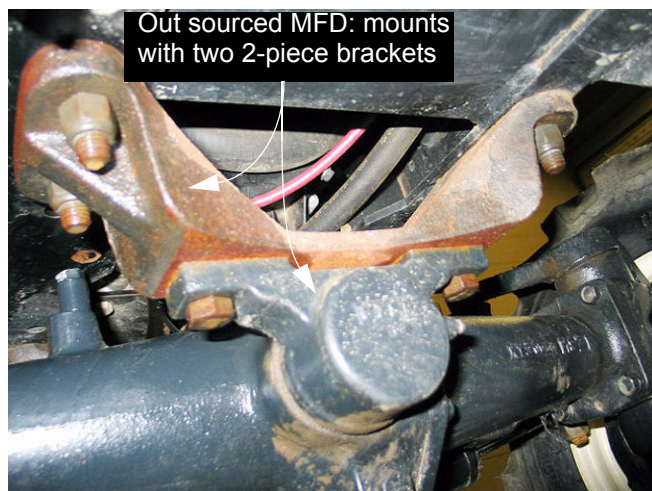

Figure 1.5
- 1.5. The out sourced MFD is mounted to a pair of two-piece brackets. See Figure 1.5.